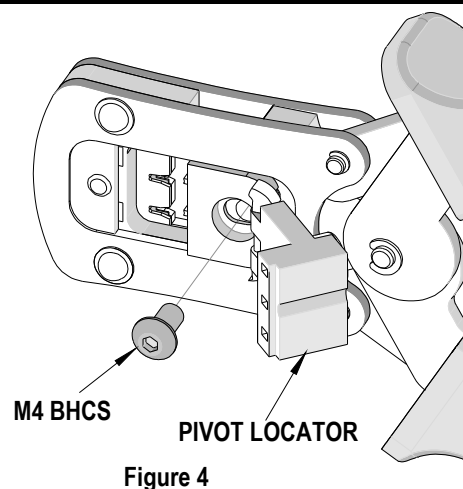

Figure 4
2. Remove the M4 BHCS. See Figure 4.
1. Place the new locator, (See Chart on page 2), on the hand tool. Install the M4 BHCS. See Figure 4.